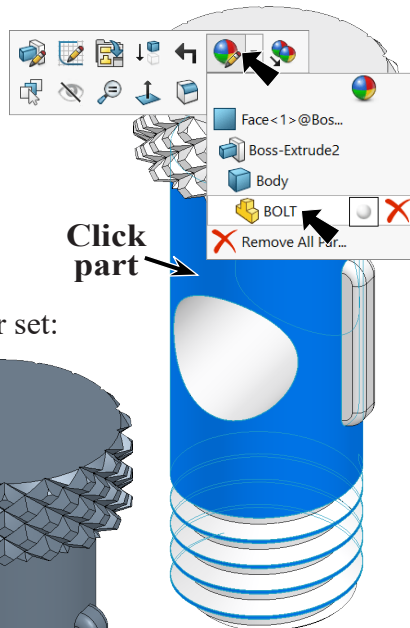

Fig. 82
Step 1. Click the part to select part, click **Appearances Callout** on the context toolbar and click **BOLT**, **Fig. 82**.